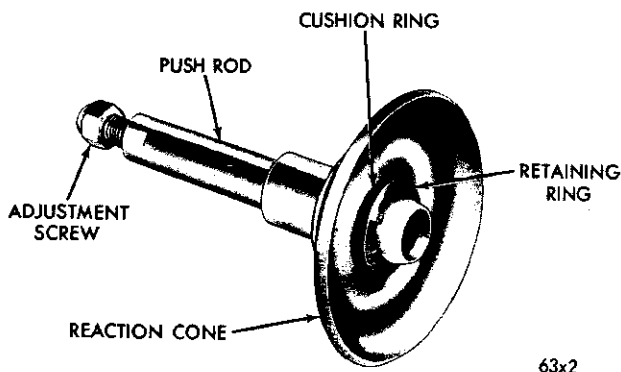

Fig. 28—Master Cylinder Push Rod
(11) Pull the bellows out of the retainer and remove the retaining ring from the bellows.
(12) Slide the master cylinder push rod off of the plunger (Fig. 28).